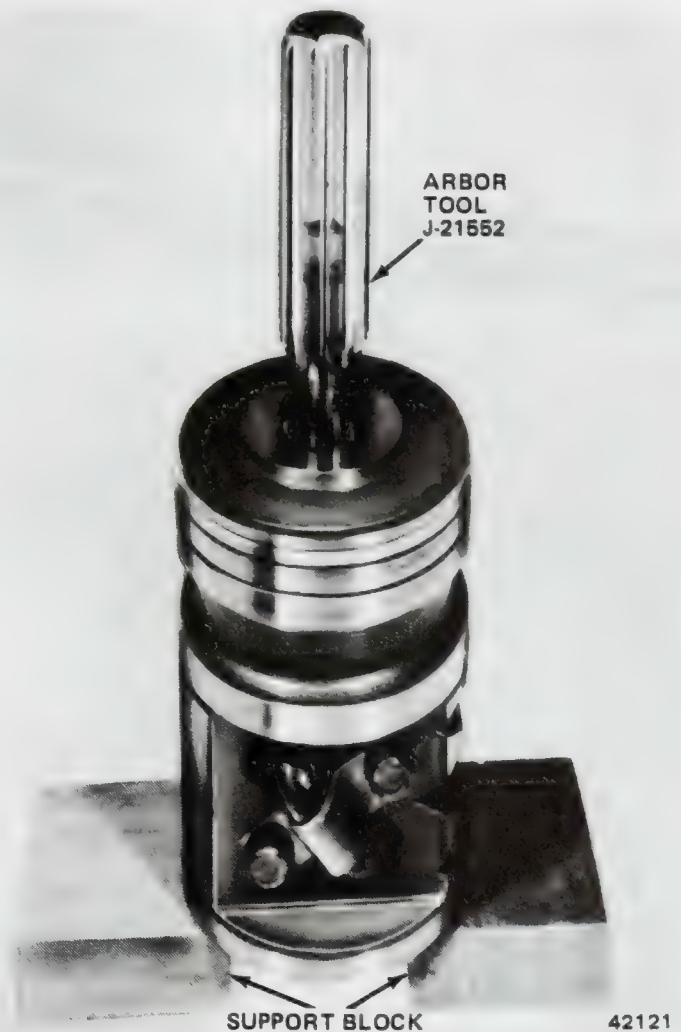

Fig. 2K-32 Arbor Tool Installed In Rack Piston
(1) Pack inside of connector seats in pressure and return ports with petroleum jelly to prevent chips from lodging in ports.
(2) Tap threads in connector seats using 5/16-18 tap (fig. 2K-33).